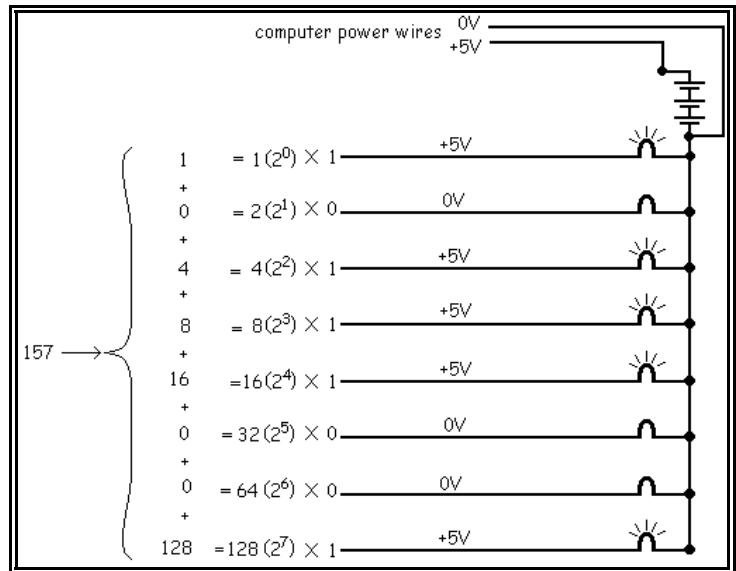

Figure 4
In Figure 4, we have 8 LED indicator lights on a control panel. The power wire for each LED is one of the wires from the data byte of the parallel port. If the wire from the parallel port is at +5V, the LED lights up, otherwise it is dark.
To get the LEDs to light up, we send a number between 0 and 255 to the printer port (the computer thinks that it is printing a character on the printer). In the example in Figure 4, the number is 157. In binary, 157 is 10011101. This means that wires 1, 3, 4, 5, and 8 are at +5V and wires 2, 6, and 7 are at 0V. The 1st, 3rd, 4th, 5th, and 8th LED light up. Each number between 0 (all dark) and 255 (all lighted) will cause a different combination of LEDs to light up.
would send the following signal to the data byte: 01000001, turning on the 1st and 7th LEDs in figure 4. This is because the character "A" is character number 65 in the ASCII (American Standard Code for Information Interchange) character list. The number 65 decimal is equivalent to 01000001 in decimal.
All that we need to do is generate a number that represents the state of our 8 LEDs. If the state of each LED is given by a variable state(i) where 'i' is the LED number, then the following would code in BASIC would set each of the 8 LEDs in figure 4 on or off as specified by the value of the variable state(i) for each LED.
In the case of Figure 4, LEDs 1, 3, 4, 5, and 8 are supposed to be on. So, state(1), state(3), state(4), state(5), and state(8) will be set to “1” by the software before we get to this part of the program. The variables state(2), state(6), and state(7) would be set to “0.”